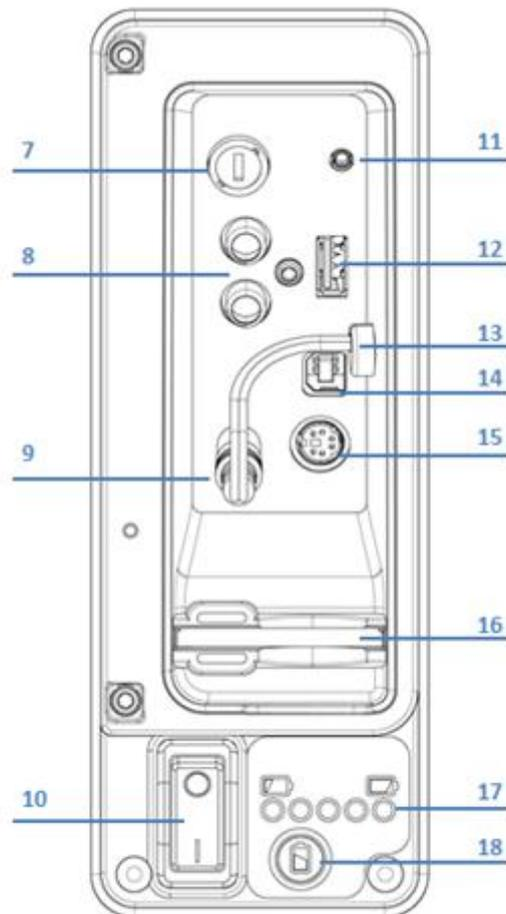

Figure 2.3: Controller I/O socket
- Connect the power supply (12-24V DC vehicle supply, mains adaptor or optional battery pack) to the power socket. (Item 9 in Figure 2.3).
Insert a compatible Compact Flash card into the card slot, which is located inside the I/O panel (Item 16 in Figure 2.3).
Insert a compatible USB flash drive, (commonly known as a memory stick or thumb drive) into the USB socket, which is located inside the I/O panel (Item 12 in Figure 2.3).
Connect the supplied keyboard via the PS/2 connector in the I/O panel (Item 15 in Figure 2.3).